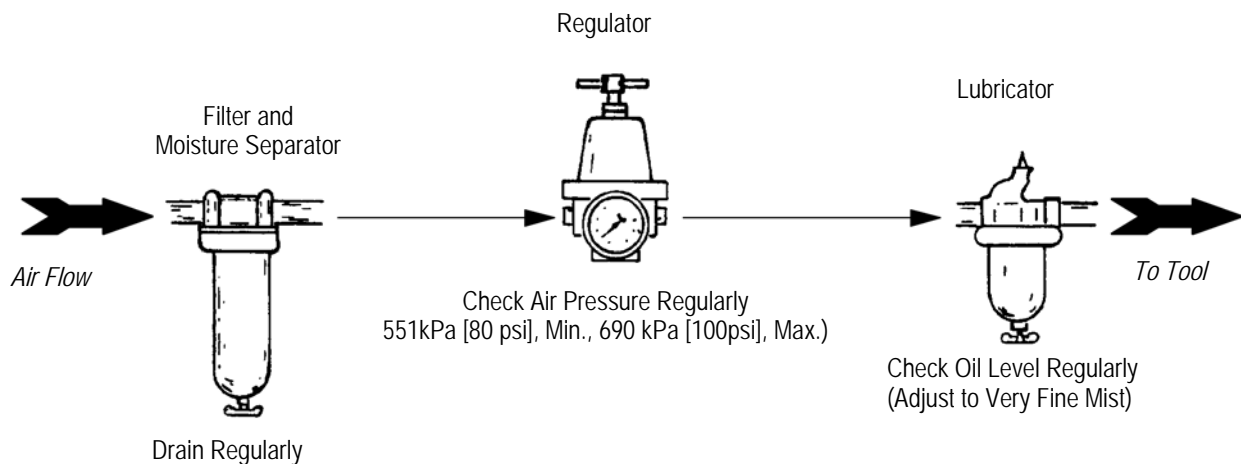

Figure 3
3. Install air line filter, air pressure regulator, and lubricator (supplied by the customer) between the air supply and hose, as shown in Figure 3. The assembly must be as close as possible to the machine. Fill the air line lubricator with a good grade air line lubricant (as recommended by the filter manufacturer). When machine is not in use, the air supply should be turned "OFF."